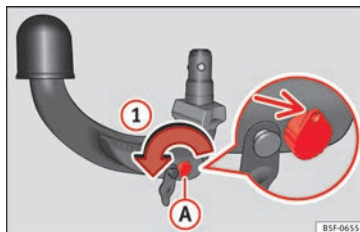

Fig. 209 Step 1.
- Turn the key in the direction of arrow ① until the part of the key with the holes reaches the top position »» Fig. 209.